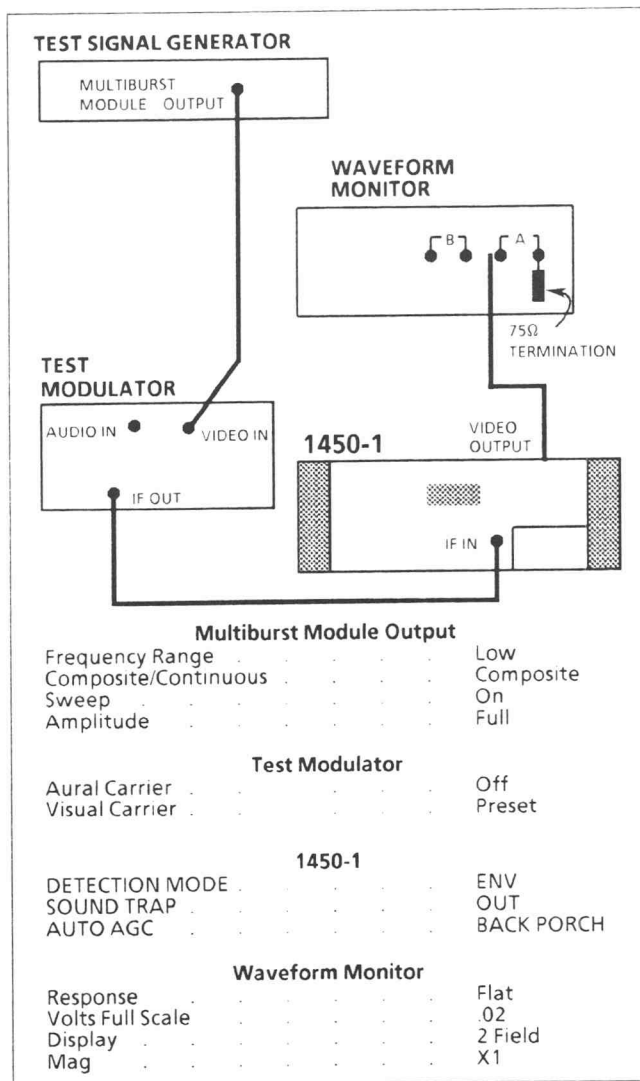

Fig. 4-46. Setup for adjusting detector balance.
- a. Connect and set the test equipment as shown in Fig. 4-46.